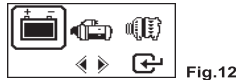

Fig.12
6. When the user has selected , the display will change to the MENU with options shown in Fig.12 below: